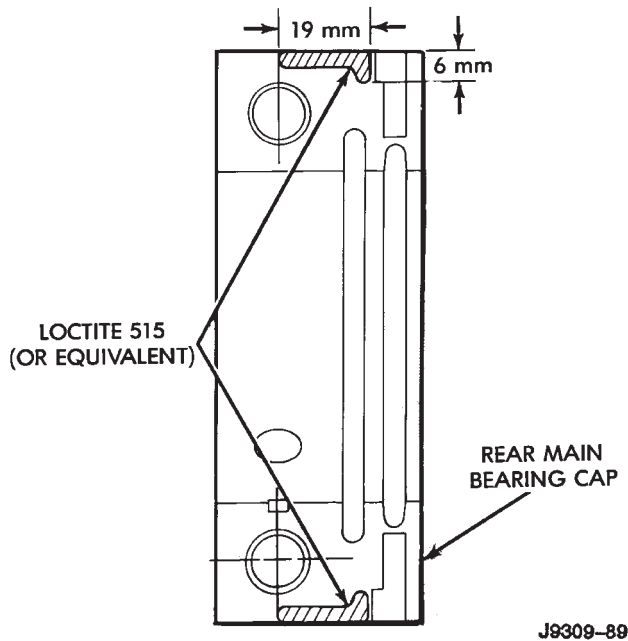

Fig. 6 Location of Loctite 515 (or equivalent)
(6) Apply Loctite 515, or equivalent on the rear bearing cap (Fig. 6). The bead should be 3 mm (0.125 in) thick. DO NOT apply Loctite 515, or equivalent to the lip of the seal.